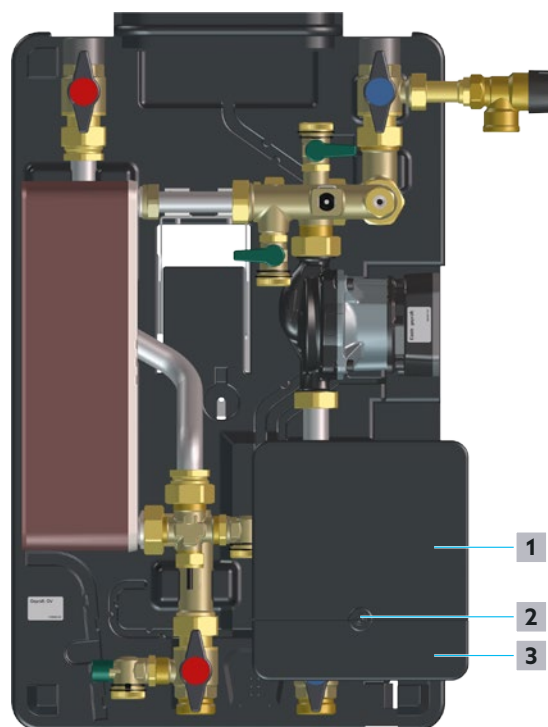

Fig. 22: Opening of the controller
- 3 Loosen the screw (position **2** in Fig. 22 on page 26) and put it aside.
- 4 Slide the connection panel cover (position **1** in Fig. 22 on page 26) upwards until it audibly clicks into place.
- 5 Fold down the supply line cover (position **3** in Fig. 22 on page 26).